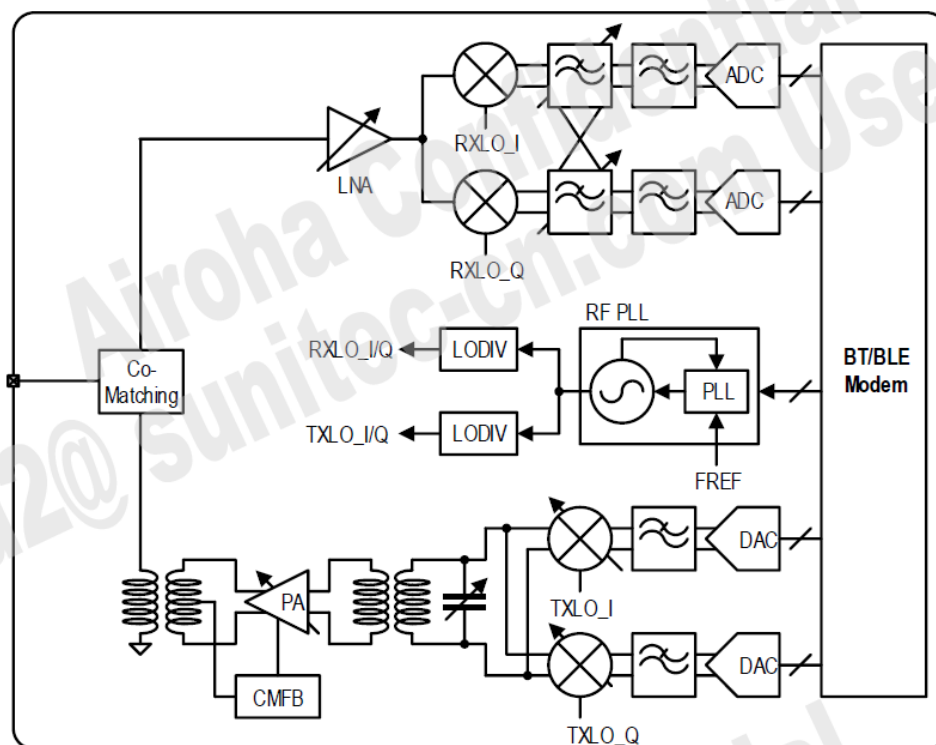

Figure 5.1-1 BC1.2 Bluetooth RF transceiver system
The MT2833 series Bluetooth (BT) RF subsystem (as shown in **Figure 5.1-1**) consists of a highly integrated transceiver with tunable on-chip RF band pass filter (BPF) and BT TRX co-matching network.